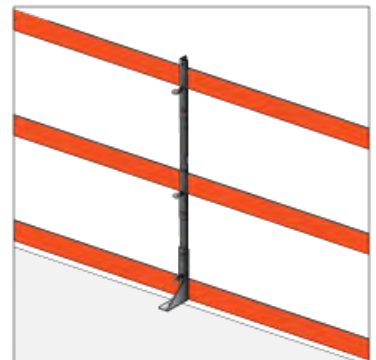

Figure 66
- iii) Use the supplied green Spacer Strap to ensure that the distance between any 2 posts does not exceed 10 feet. Install additional Anti-Deflection Posts where needed. (Fig. 66)